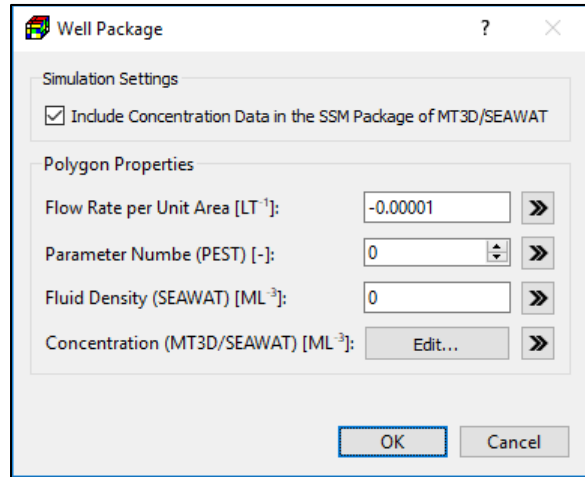

Figure 83. The Well Package dialog box for specifying polygon properties
4. Polygon input method: Figure 83 shows the dialog box for specify the following data are to a polygon. These data can then be assigned to model cells following the rules described in Section 3.3.2.3 and additional rules below.